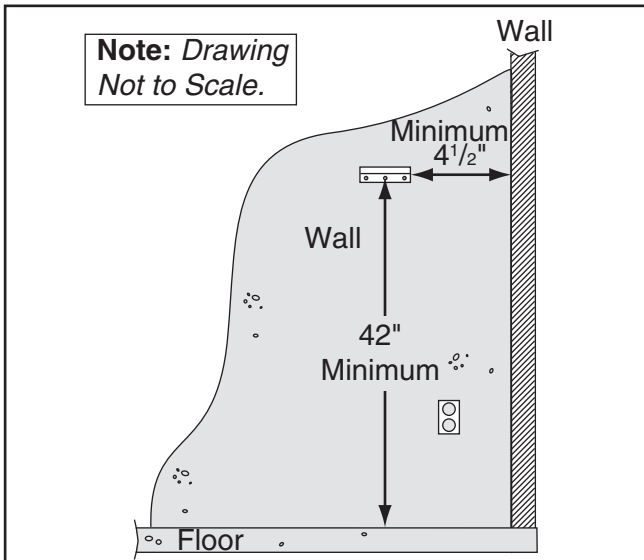

Figure 9. Wall mounting bracket positioning.
2. Using the wall mounting bracket as a template, mark the mounting hole location so the bottom of the mounting bracket is a minimum of 42" from the floor and at least 4½" away from any wall, as shown in **Figure 9**.